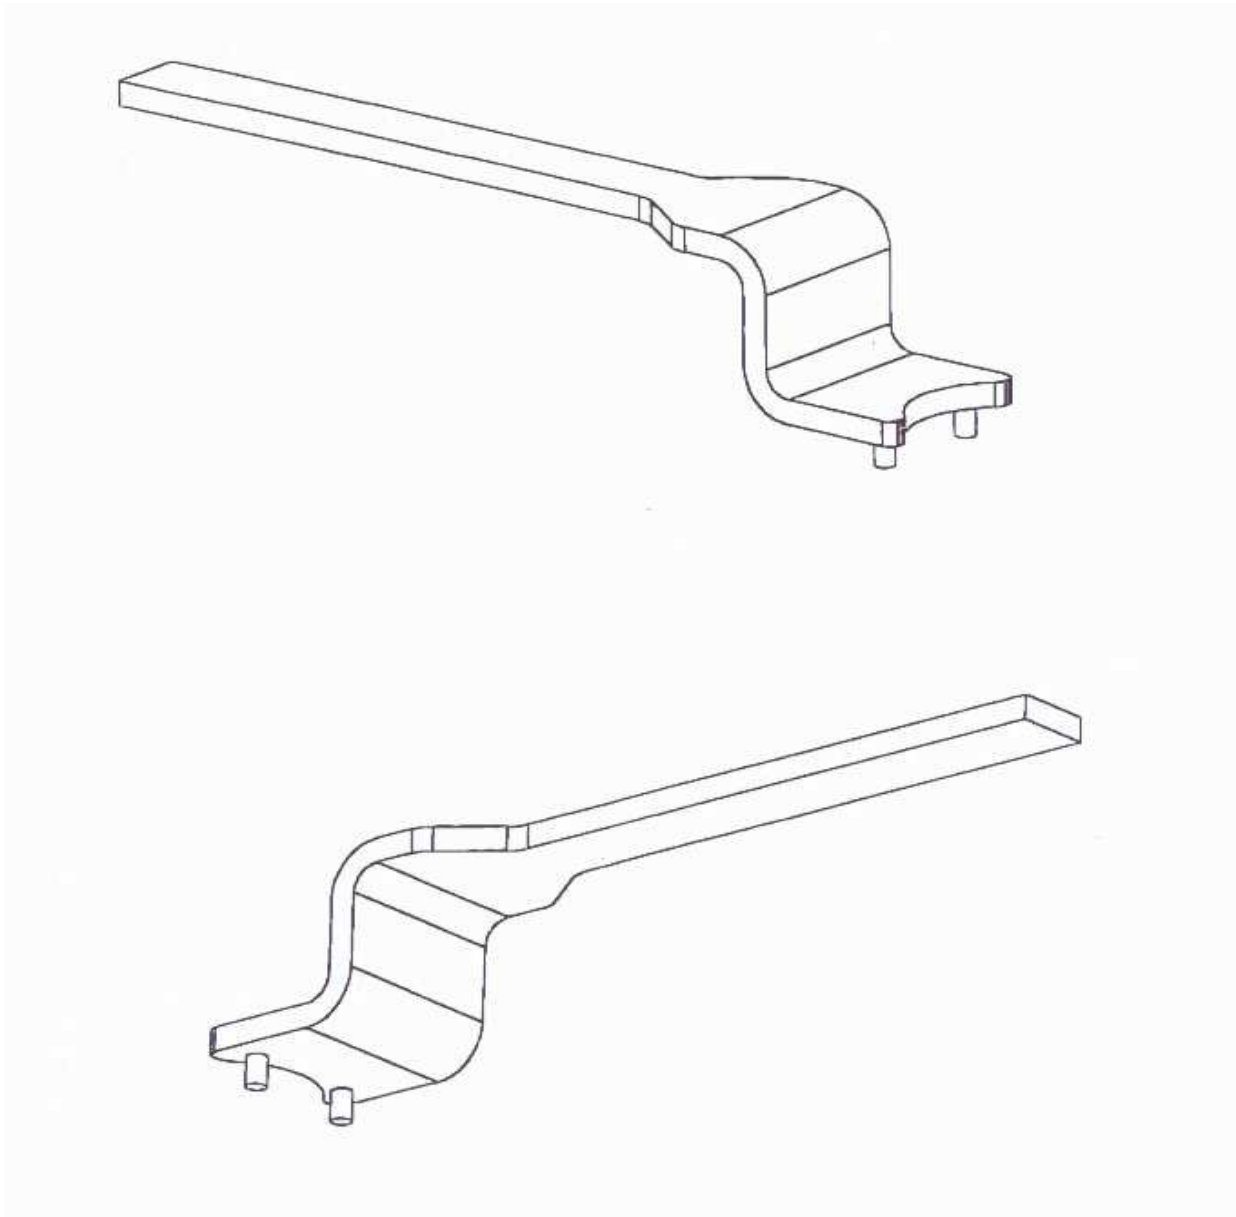
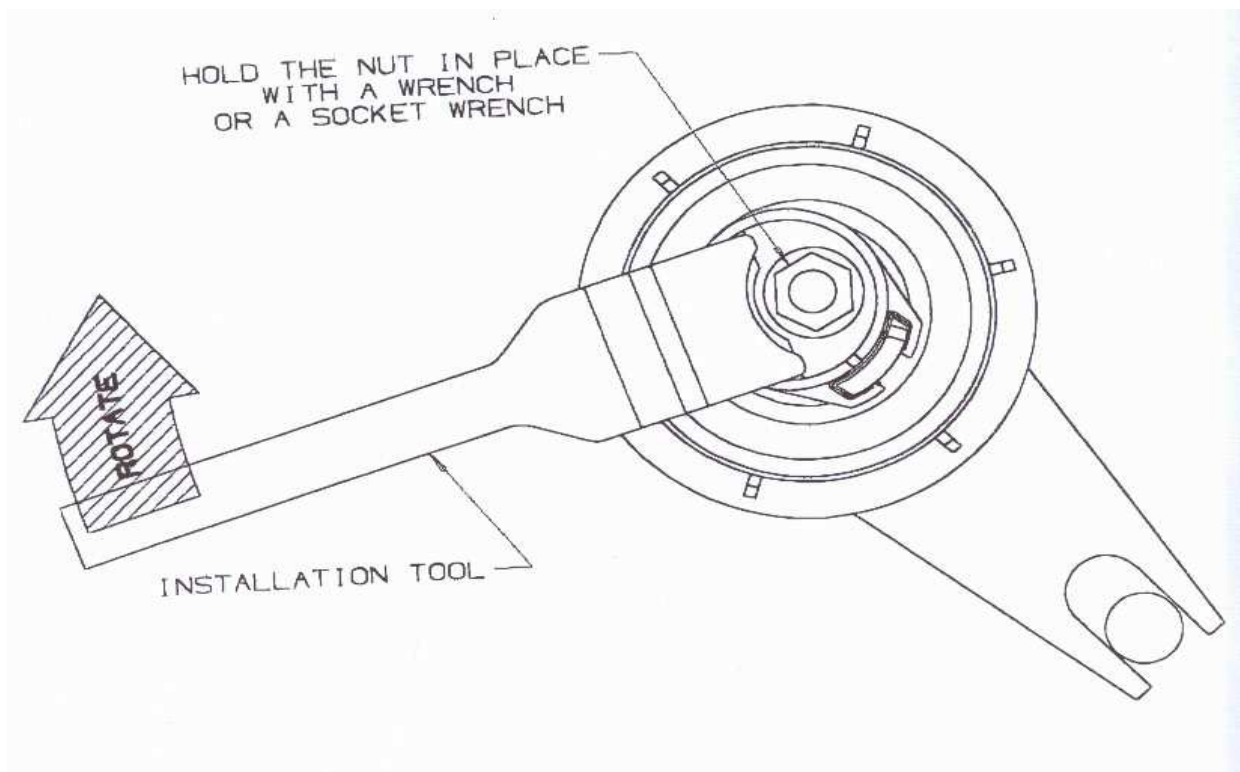

Figure 3: Installation Tool (Ref. Schley P/N 86400)
Figure 4: Adjustment of Tensioner with Installation Tool
6. Rotate the *Installation Shaft* CLOCKWISE with an *Installation Tool* (See Figure 3). Make sure to hold the mounting bolt with a *Wrench* in order to prevent it from turning when rotating the *Installation Shaft*. The Tensioner assembly will move against the belt and the *Arm* will eventually start to move CLOCKWISE (See Figure 4).